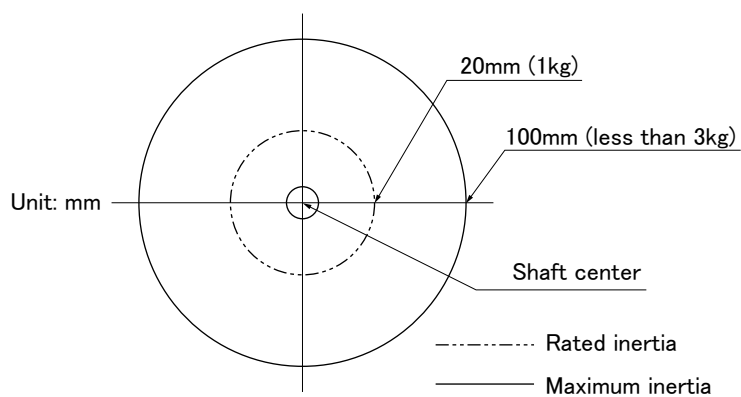

Fig.2-3 : Position of center of gravity for loads (for loads with comparatively small volume): RH-3FRH series
- (2) Fig. 2-3 to Fig. 2-7 shows the distribution dimensions for the center of gravity in the case where the volume of the load is relatively small. Use this figure as a reference when designing the tooling. Please use the robot in the allowable moment of inertia of maximum moment of inertia shown in Fig. 2-3 to Fig. 2-7.